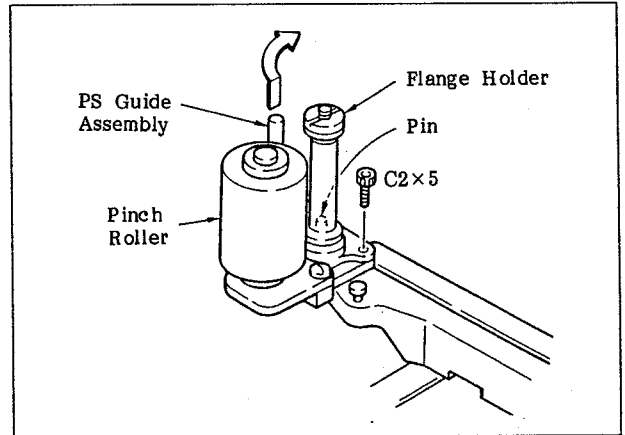

Fig. 6-95 Movement of the PS Guide Assembly
- h. Remove the screws (C2x5) that hold the PS guide assembly and then move the PS guide assembly in the direction of the arrow. (Figure 6-95)